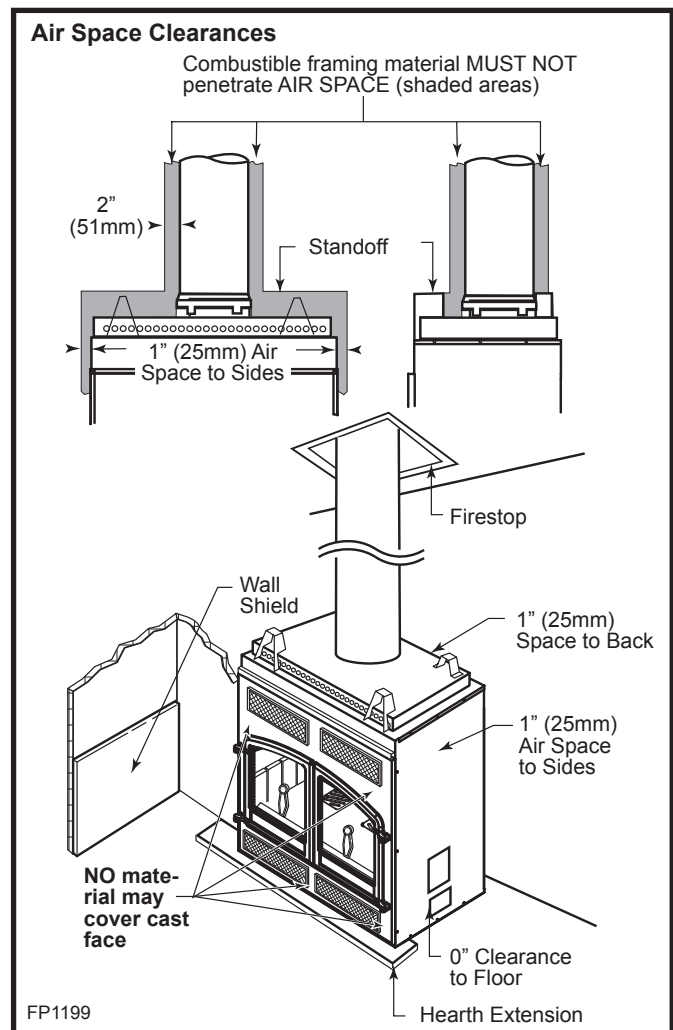

Fig. 20 Minimum clearances to combustibles.
**CAUTION:** All joints between the finished wall and the fireplace surround (steel front) must be sealed with noncombustible material to prevent cold air leakage into the room. (Fig. 20)
Finish the wall with material of your choice. **Do not install a combustible mantel shelf less than 12" (305 mm) above the firebox grille opening. Do not install a mantel face plate less than 6" (159 mm) from top of grille opening. (Fig. 20)** If a combustible material is used below a flat mantel shelf, consult your local building codes for minimum clearance from top of fireplace opening to bottom of mantel shelf.
Adjacent combustible side walls that are within minimum dimensions shown in Figure 25 of the fireplace opening must be protected with CFM Corporation Wall Shield Model SP40 or a specifically built wall shield described in Figure 20.
The special wall shield design described in Figure 20 is an alternate method of adding protection to side walls and can be used in place of the SP40 with the same wall clearances specified for the SP40. Rt must = 1.85 minimum.